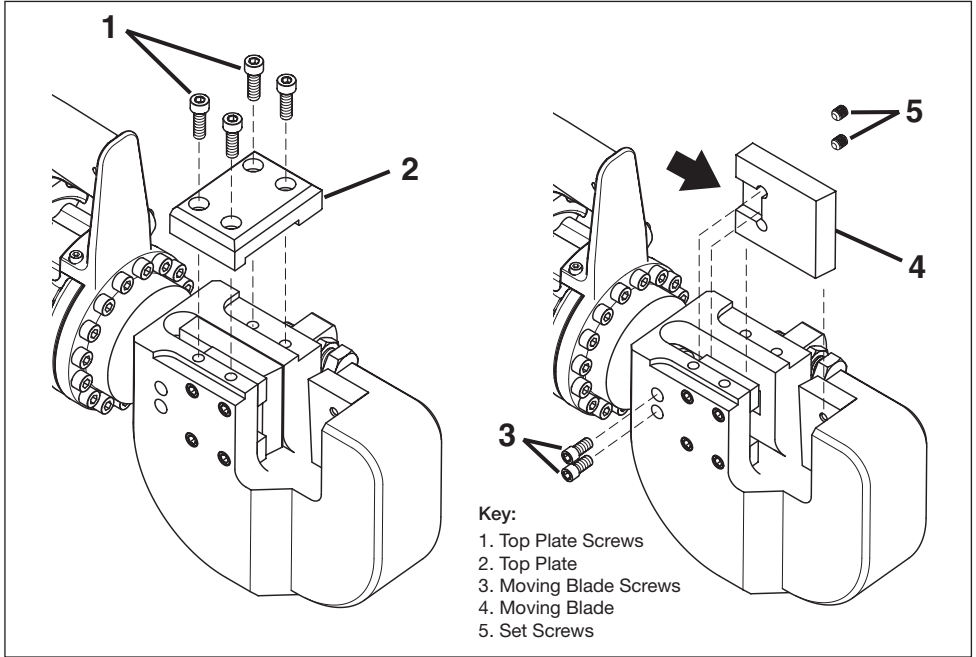

Figure 10, Moving Blade Replacement
Replace the moving blade as described in the following steps. Refer to Figure 10, items 1, 2, 3 and 4.